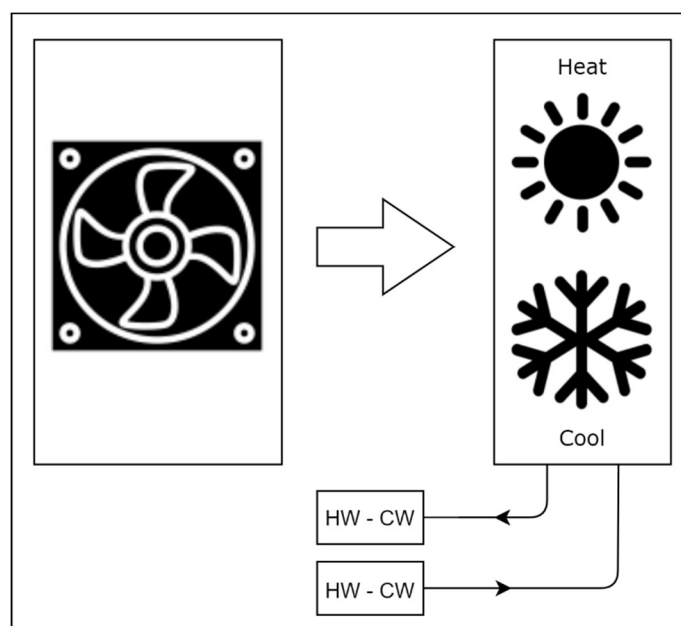

Figure 14 2 pipes fan coil system
The 4 pipes system consists of two separate cold water (CW) and hot water (HW) sources. Each source has its own set of pipes and valves for supply and return. The operation of 4 pipes system is demonstrated in Figure 14.